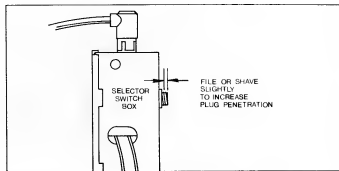

Figure 22. Removal of Material from Front Edge of Jack
**NOTE:** If power unit checks out OK but is inoperative with operable Studio II console, check fit of plug-in jack. Some early production plugs and jacks have tolerances that conflict and prevent adequate plug penetration. Solution to problem is often simply to increase effective length of plug by filing the jack slightly as shown in Fig. 22. (Use sharp knife to remove any untrimmed mold flash from jack if present.)